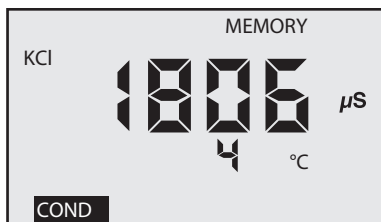

Figure 8
2. **"MEMORY"** will appear and the temperature display will be momentarily replaced by a number (1-100) showing the position of the record. Figure 8 shows a reading of 1806  $\mu\text{S}$  stored in memory record #4.